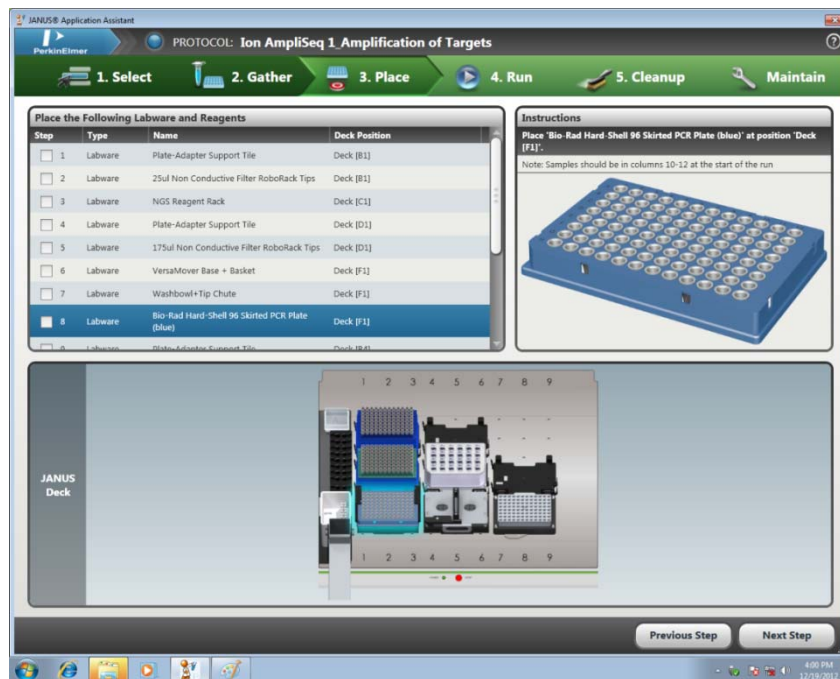

Figure 12. Place page of NGS Express software showing the location of the sample plate on the deck for Ion AmpliSeq Amplification of Targets protocol.
- b. Follow the instructions in the Place tab of the software for placing support tiles, tips, and plates on the deck. Note that your sample plate must be in the basket in the front left position on the deck, as shown in Figure 12.